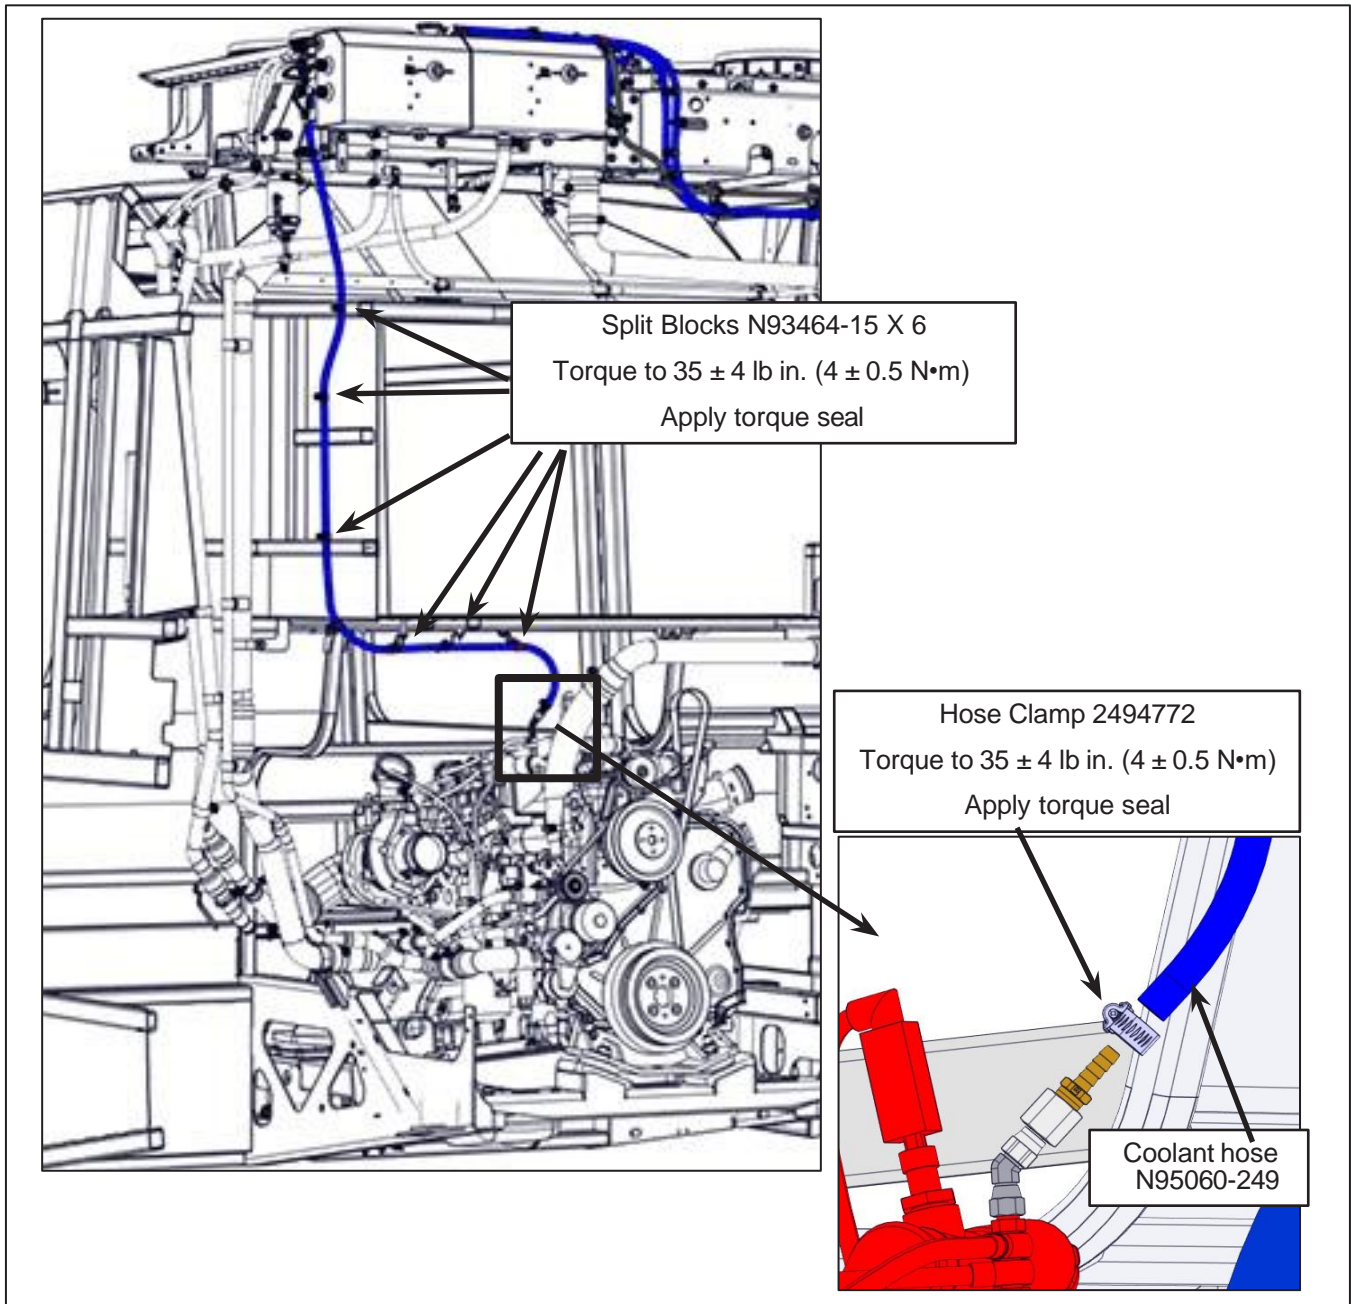

Figure 7 - Coolant Hose N95060-249 Installation in Engine Compartment
- 1.26. Affix the new coolant hose N95060-249 to the same anchor points of the old coolant hose using the new N93464-15 split blocks. Torque the split blocks. See Figure 7 for torque value.
- 1.27. Slide a new hose clamp 2494772 on the N95060-249 coolant hose and connect the hose to the engine. Torque the hose clamp. See Figure 7 for torque value.